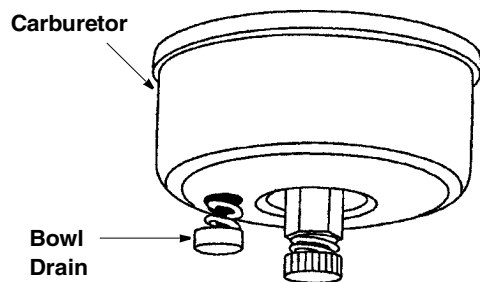

Figure 38
- Drain carburetor by pressing upward on bowl drain, located below the carburetor cover. See Figure 38 .